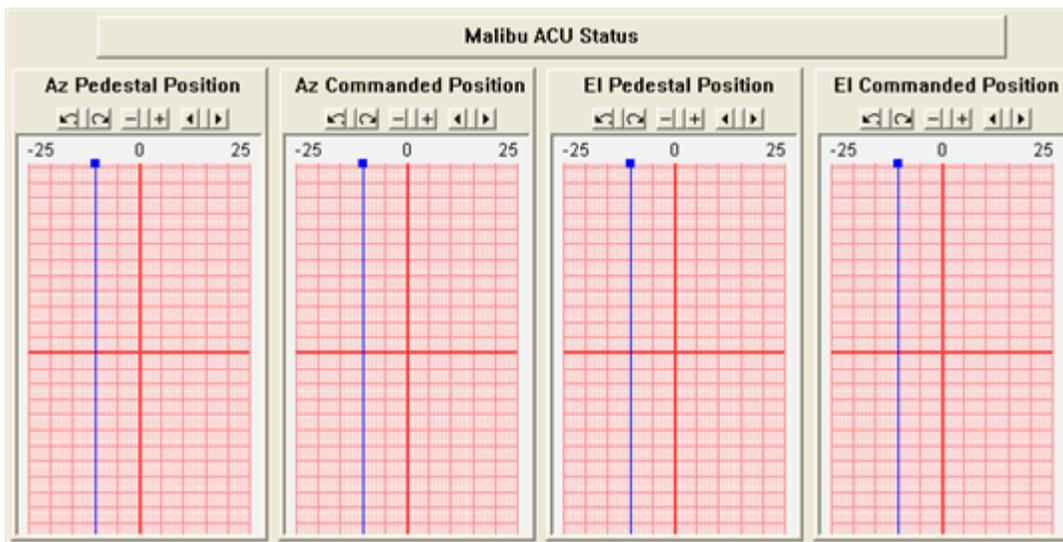

Figure 3-3 Examples of ACUStatus Parameters in IADS
The ACUStatus function must be called with a variable request number of zero (0) as in order to receive the Status packet from the Malibu ACU and therefore receive status data for any other variable request numbers. During real time operation all the other ACUStatus functions can be use within any IADS display (see Figure 3-3 for an example of using these parameters in a strip chart display).